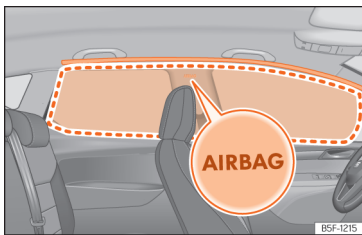

Fig. 31 Location and deployment area of the head-protection airbag.
Head-protection airbags are on both sides of the passenger compartment, above the doors >>> **Fig. 31** and their location is indicated with the word "AIRBAG".
The framed area is covered by the head-protection airbag when it is deployed (deployment area) >>> **Fig. 31**. Therefore, objects should never be placed or mounted in this area >>> **△**.
- Ensure that children are correctly seated in their seats and that their heads are not in the deployment zone of the head airbags >>> **Fig. 31**, as deploying airbags could hit them and cause serious injury.